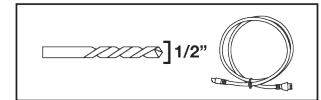

FIG. 12
**Jumper Wires:** To feed any size jumper wire through a cabinet, use a 1/2" drill bit (not included.) (See FIG. 12)